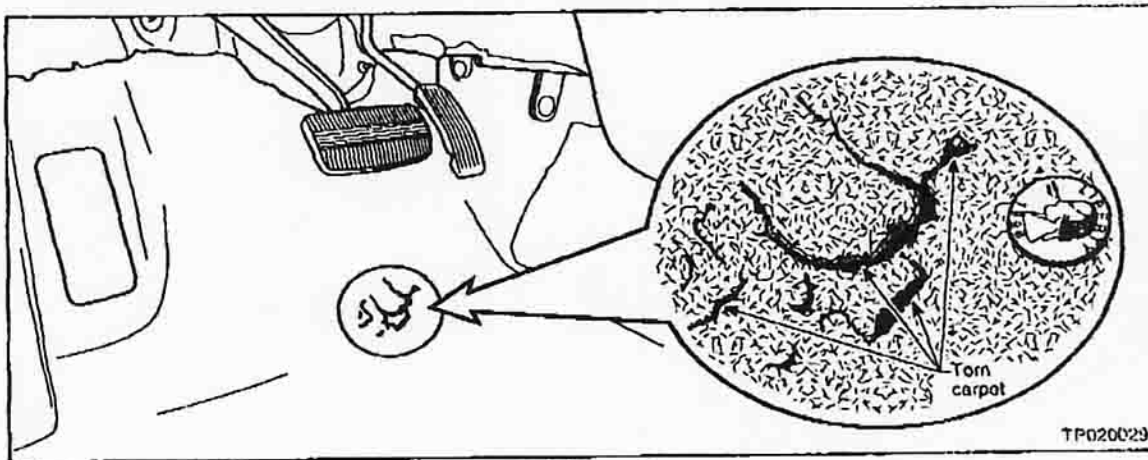

Figure 1
- Driver's side front floor carpet is torn (see Figure 1),